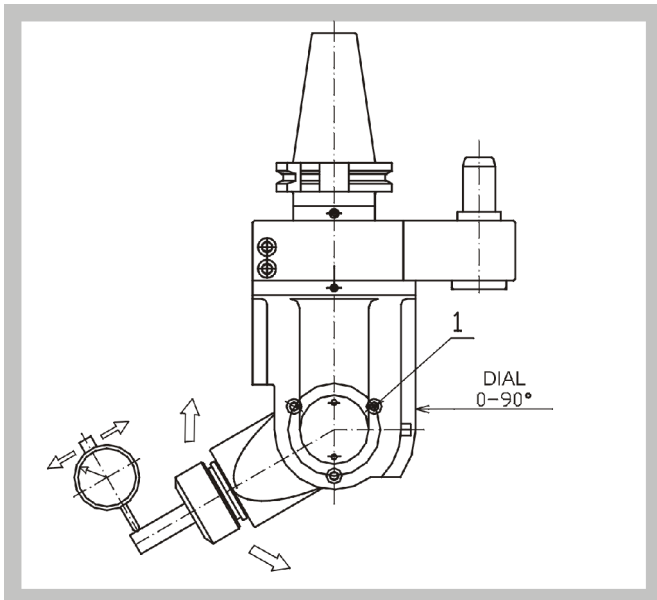

Fig. 20
7. Setting of the Angular Position of the Head Spindle – Models PVI (PVM)- Fig. 20
If the slope of the spindle should be set more exactly than $\pm 30'$, it is necessary to use the control arbor clamped in the spindle and realise the exact setting by means of the dial gauge (Fig. 20). It is efficient to use the sine bar.